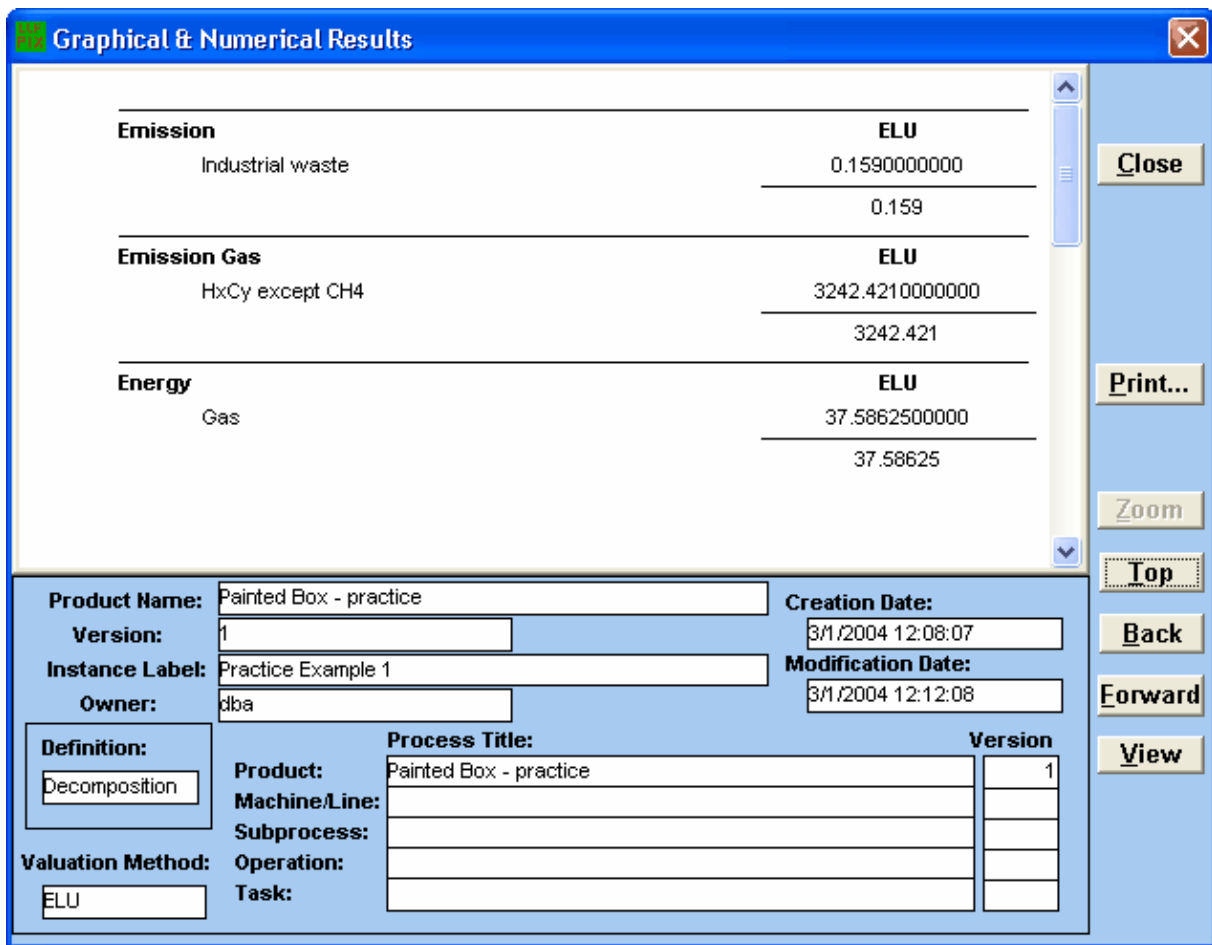

Figure 20: The environmental load for the "Painted Box - Practice Example" displayed in the numerical report form.
For each **Determination Instance** that we create, (as was demonstrated in the previous section and shown in Figure 20) we can execute a valuation using every Valuation Method that is present in the LCAPIX database. The present version of the database contains data for the **Environmental Priority Strategy (EPS) Valuation Method**. (See Section 5.2 for more details.) There is some data in the **BU** system also for some substances, but that data is not officially recognized as is the EPS data. So, the
19. We can also see the numerical report for the entire product (i.e. **the Demonstration - Product Box**) by now clicking on **TOP** which will bring up a screen shown in Figure 20.